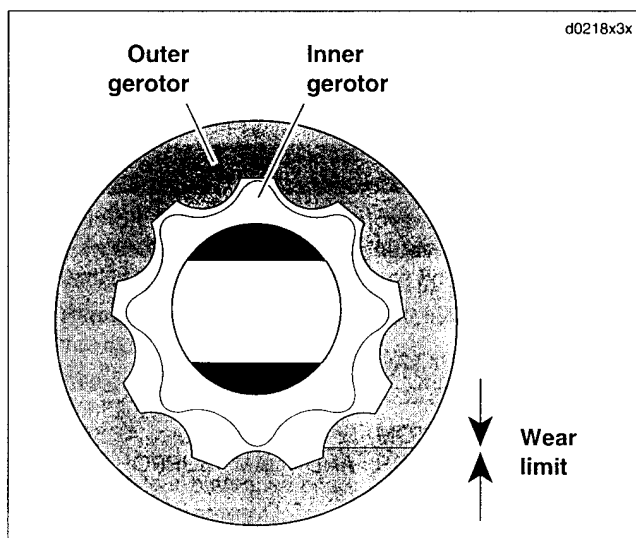

Figure 3-150. Measure Gerotor Sets for Wear
6. See Figure 3-150. Check gerotor wear.